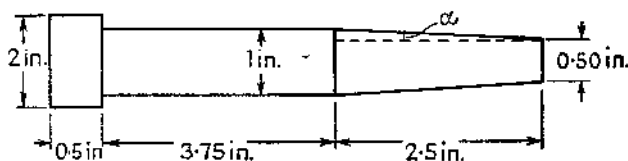

Fig. 34
(3) (a) If the taper shown in fig. 34 is turned by offsetting the